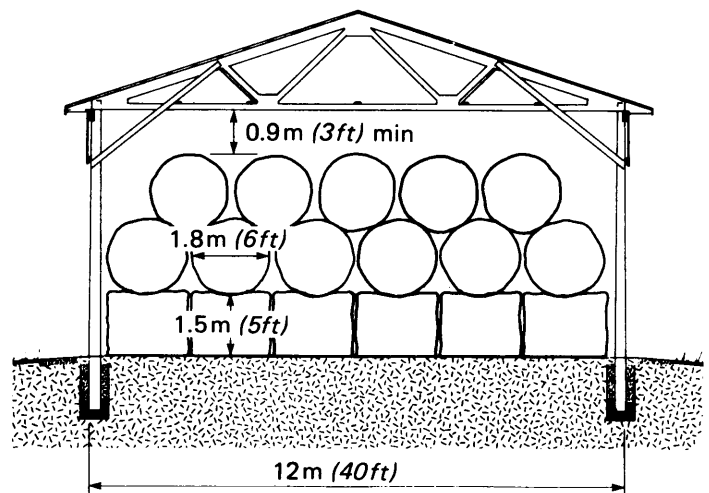

Figure 2 Suggested stacking pattern for the larger 1.8 x 1.5 m (6 x 5-ft) round bales
**STACKING ROUND BALES** The poles and roof trusses are not designed to withstand bales piled or tumbled against them. Based on the largest 1.8 X 1.5 m bale size, Figure 2 shows one way to systematically pile a maximum number of bales with minimum risk of the pile collapsing. The 5.7 m (19 ft) interior height leaves enough clearance under the trusses to easily insert the third layer of bales. The 12 m (40 ft) clearspan truss allows enough width to stack six bales across.
**STORAGE CAPACITY** Using the stacking pattern and bale size shown in Figure 2 and allowing 540 kg (1200 lb) per bale, each 2.4 m (8 ft) of building length will hold 12 t (13.6 tons) of dry hay.